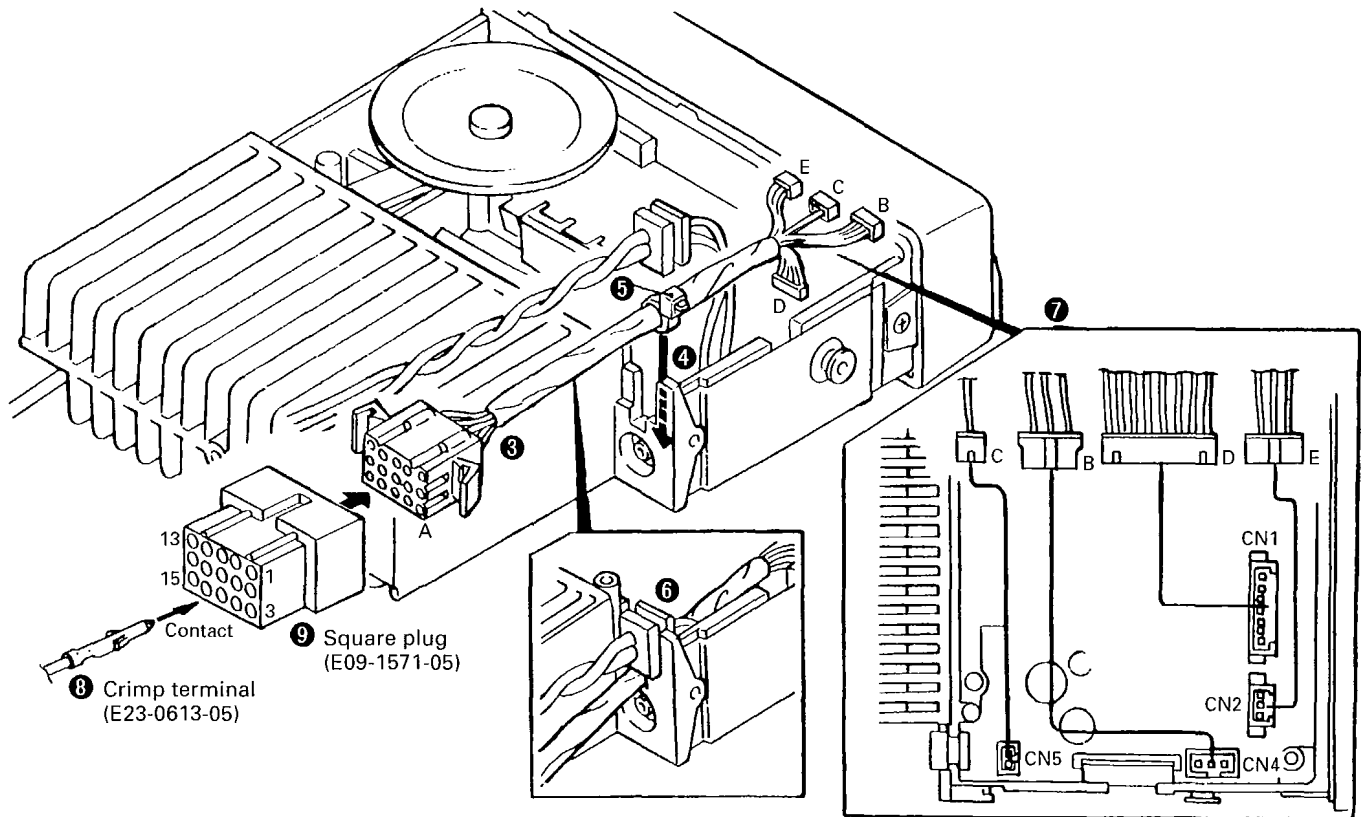

Fig. 2
4. Relocate the DC cord bushing in the chassis (⑥).
5. Connect the KCT-19 to the TX-RX unit (A/2) as shown in Figure 2 (⑦).
6. Connect the KCT-19 to the external accessory by inserting the crimp terminal (⑧) into the square plug (⑨), both of which are supplied with the KCT-19.